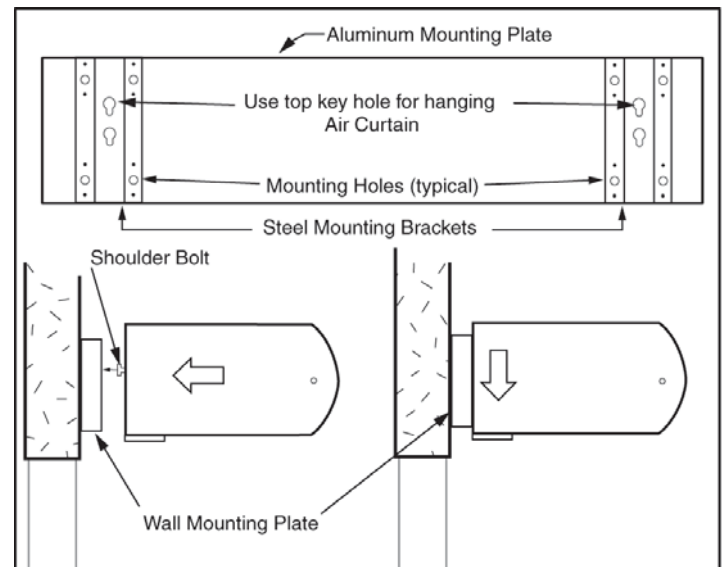

FIGURE 4 - Installing Air Door on Wall Mounting Plate
- I. There are two sets of keyhole slots on the wall mounting plate. In low overhead installations the air door may be staged in the lower keyholes to provide clearance for electrical wiring and then moved to the higher holes after completion. Raise the air door with the discharge opening facing down toward the floor. While holding the unit level, slide the heads of the shoulder bolts into the larger hole of the keyhole slots of the mounting plate. Lower the unit into place, keeping both ends level, allowing it to rest flush with the mounting plate. See Figure 4